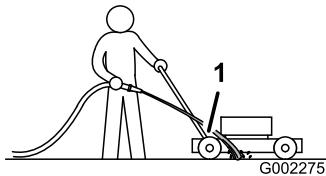

Figure 33
3. Hold the running garden hose at handle level and direct the water to flow on the ground just in front of the **right** rear wheel (Figure 33).